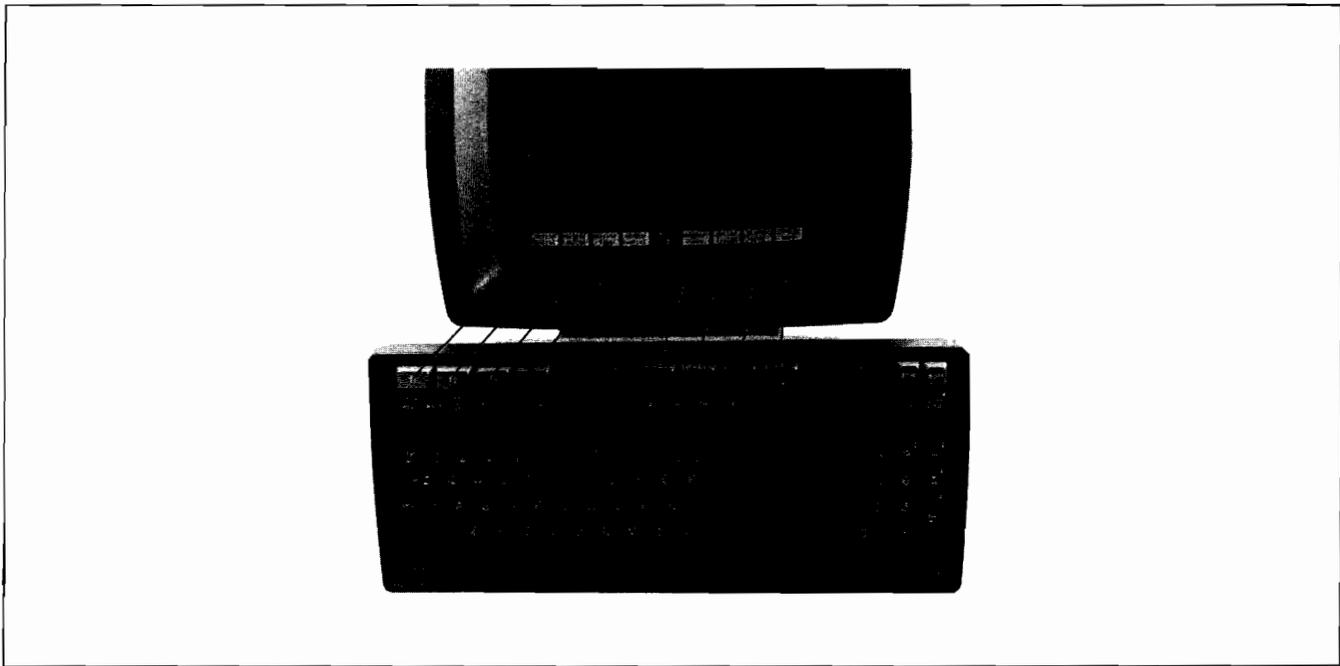

Figure 4-1. Screen-Labeled Function Keys
- **Function Key Group.** This group includes the eight keys labeled "f1" through "f8" and the keys labeled "AIDS", "MODES" and "USER KEYS". The f1 - f8 keys are multipurpose keys in that the functions they perform vary from one situation to another. At any given time the applicable labels for the function keys are displayed across the bottom of the screen (figure 4-1).